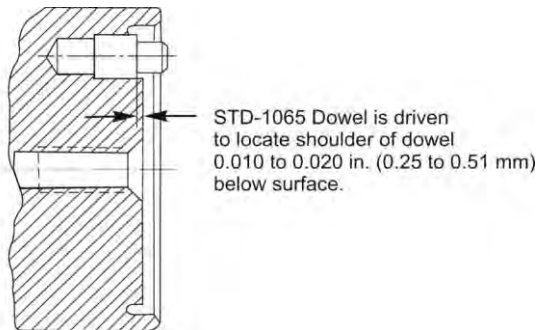

Figure 40
- (8) Remove and discard the alignment dowel.
- (9) Examine the bottom of the alignment dowel hole to make sure that the drill bit did not make contact with the bottom of the hole. If the drill bit made contact with the bottom of the hole, send the crankshaft to the factory for evaluation.
- (10) Press the replacement alignment dowel into the alignment dowel hole to the required driven height. Refer to Figure 40 or the latest revision of Service Bulletin No. SB-475 and its supplements for the alignment dowel part number and the correct driven height.